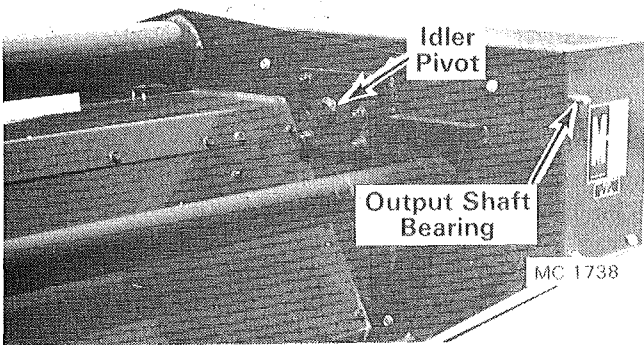

Figure 21 – Two on All Models
3. Output shaft bearings, see Figure 21 and 22.